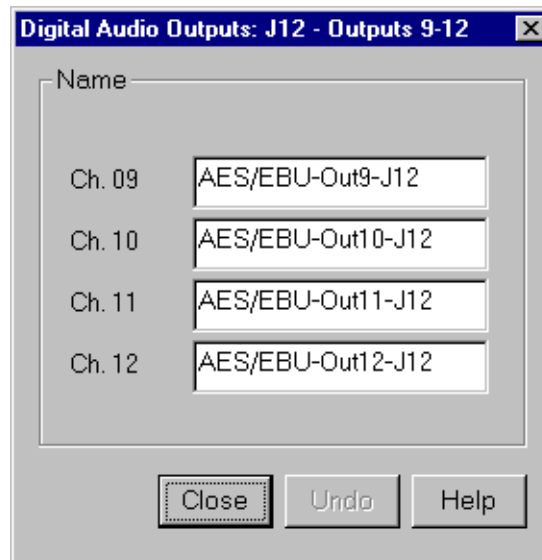

Figure 36. Digital Audio Output dialog box
1. Expand Audio Output, and then click one of the Digital Channels to bring up the Digital Audio Output dialog box (Figure 36). The channel numbers on the left refer to the physical output connectors on the audio output box. **Ch. 01** and **Ch. 02** refer to the channel pair on the first connector, and **Ch. 03** and **Ch. 04** refer to the pair on the second connector, and so forth.